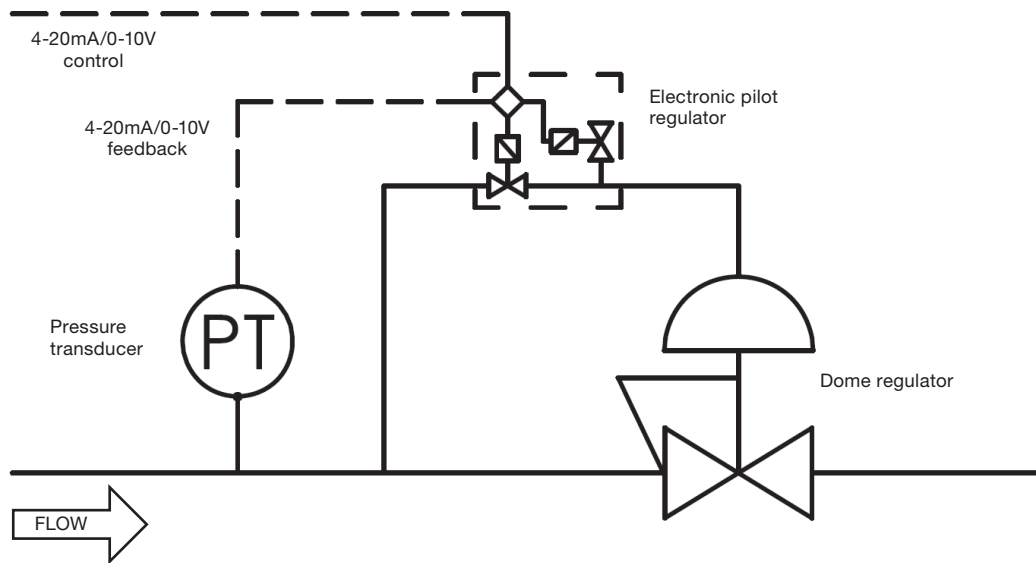

Figure 5
- **Electronic control.** In this setup an electronic pilot regulator, fed from the system pressure, is used in conjunction with a pressure transducer to directly control the dome pressure (Figure 5). The set pressure of the main regulator will be limited by the outlet pressure of the electronic regulator. This setup is not suitable for liquid applications.